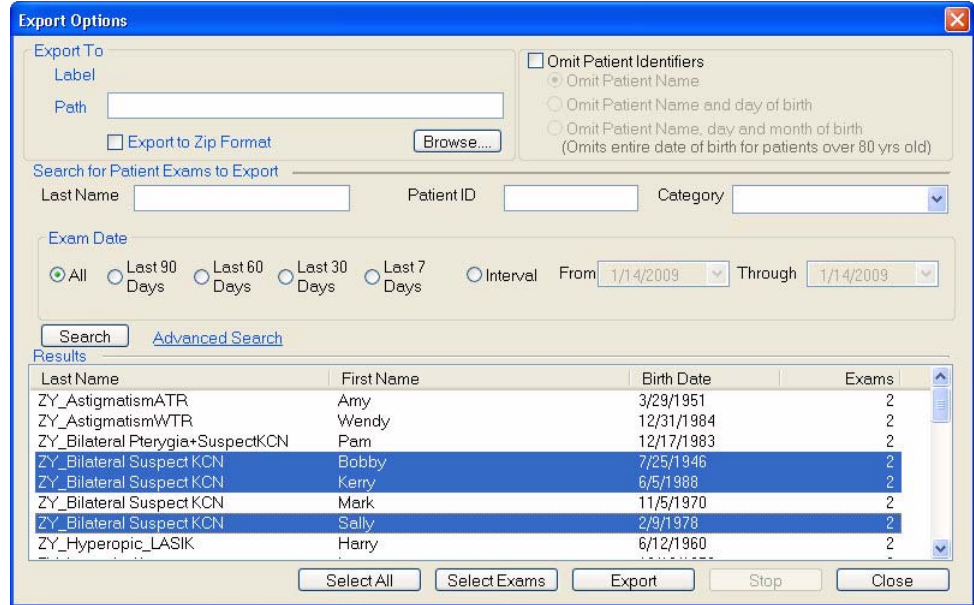

Figure 11-22 Export Options Dialog
- Select the desired patients in the Results list: **Click** to select one patient; **Ctrl-click** to select multiple patients (Figure 11-22); **Shift-click** on two patients to select all intervening patients; **Ctrl-Shift-click** to select all intervening patients plus those already selected; **click and drag** to the right of the last name to select all adjacent patients. Click **Select All** to select all patients in the Results list.